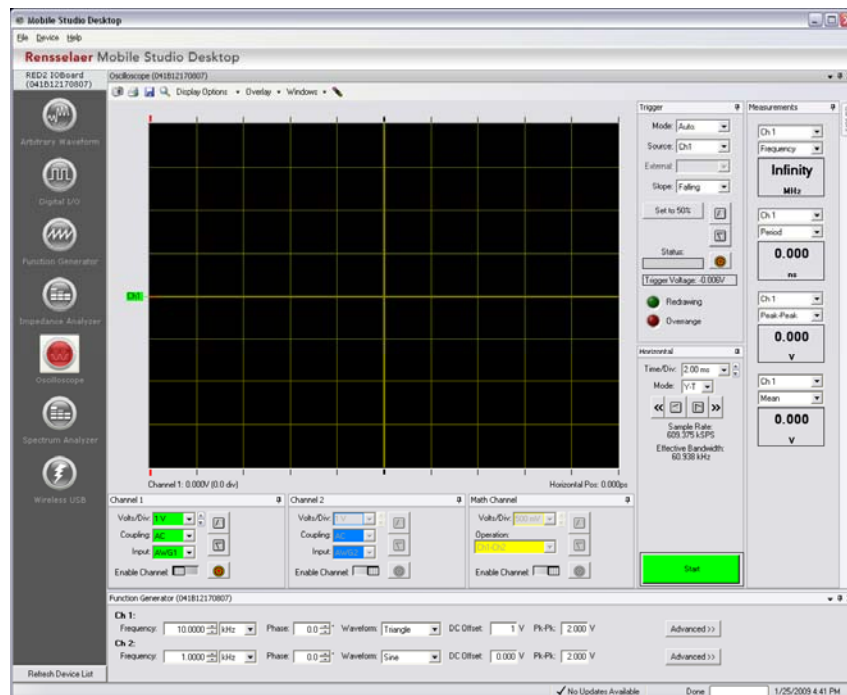

Figure 2.1: Oscilloscope and Function Generator Simultaneous Interface
- 4) Selecting the *Function Generator* icon while the *Oscilloscope* is still in the window will display both interfaces and allow for simultaneous adjustments and viewing, as shown below in Figure 2.1.